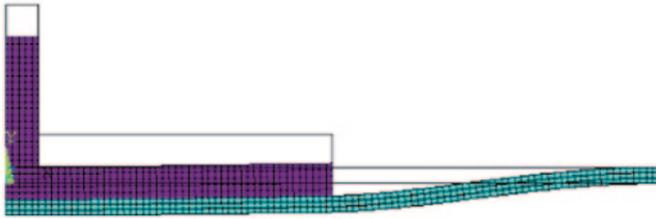

Fig. 8.27 Deformed shape with undeformed edge
- Corresponding deformed shape is shown in Fig. 8.27.